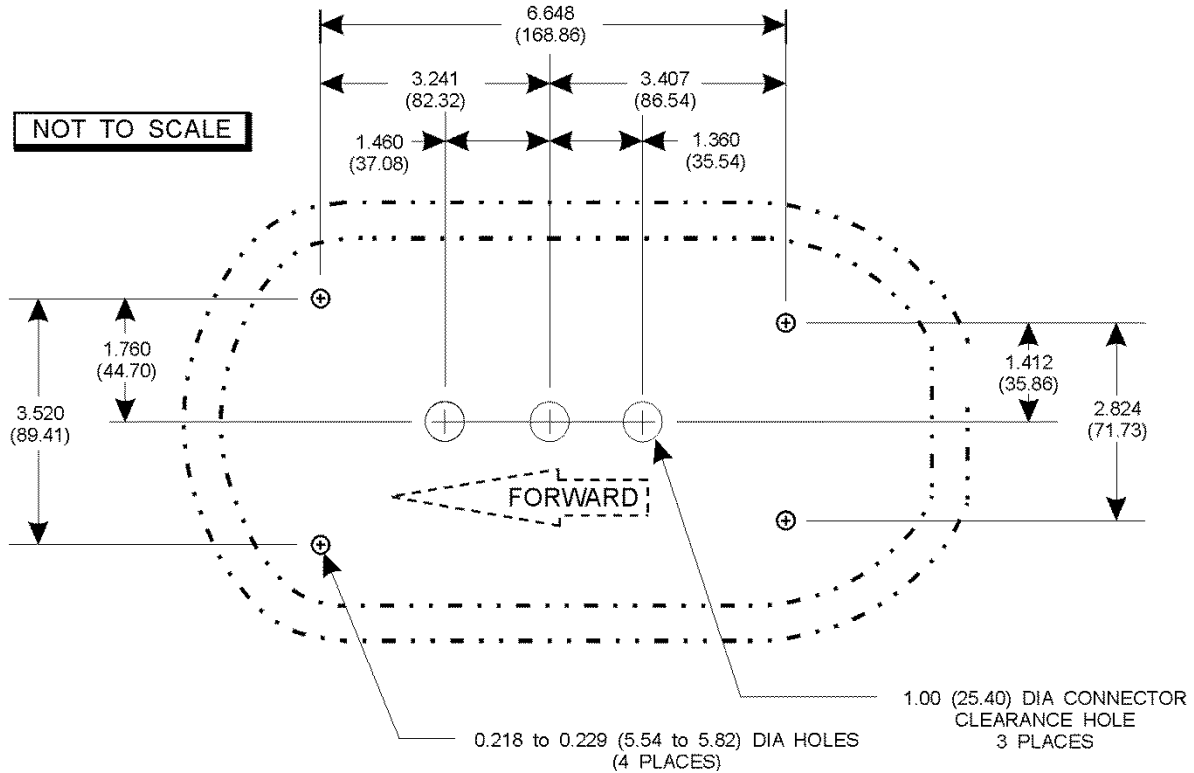

Figure 2-16: Antenna Mounting Holes
- To facilitate mounting to the airframe, the dimensions shown in Figure 2-16 can be used to locate and drill mounting and connector access holes.